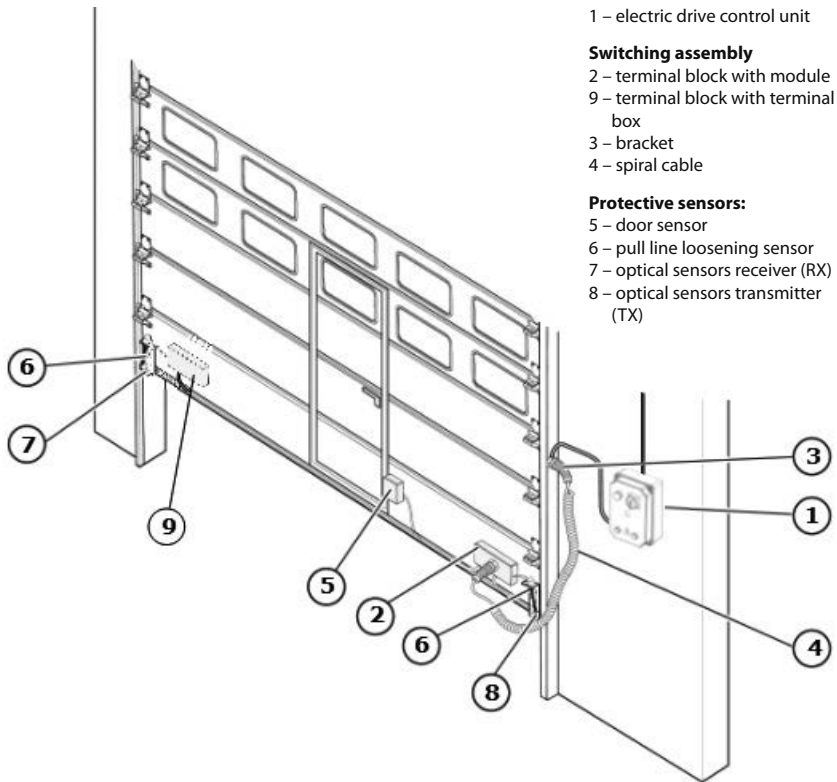

Figure 1 – Typical mounting diagram
Typical mounting diagram is presented in Figure 1.
- Determine the location of the control system (control unit) of the electric drive (Figure 1), to the left and to the right from the door. It is recommended to mount the switching assembly components on the side, where electric drive control system is located.